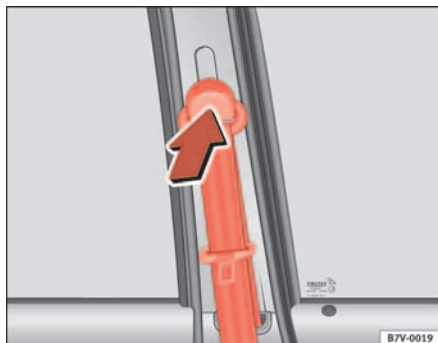

Fig. 15 Location of the belt height adjuster
- Press the upper part ⇒ fig. 15 of the shoulder belt guide in the direction of the arrow and hold it in this position.